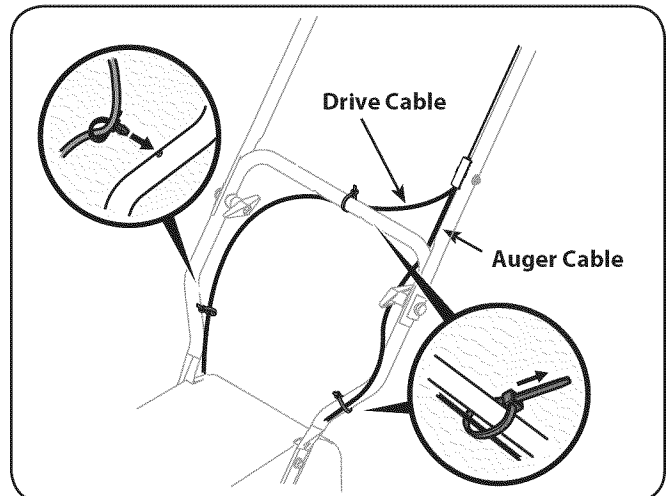

Figure 3-3
3. Slide one of the loosely fitted cable ties from the right side of the lower handle up to the cross member of the lower handle. Leave the second cable tie in place on the right side of the lower handle. See Fig. 3-3 for reference.
NOTE: The auger cable routes down the left lower handle and the drive cable is routed across the top of the lower handle and down the right side of the lower handle. See Fig. 3-3.
7. Two cable ties have been used to loosely tie the control cables to the lower handle, including the cable tie you relocated in step 3. A push clip is also included on the lower drive cable. Position cable ties now, as in Fig. 3-3, and tighten to secure cables to the lower handle. Trim off excess material of cable ties. If not already installed, push the clip on the drive cable into the hole in the handle provided as shown in the left inset below.